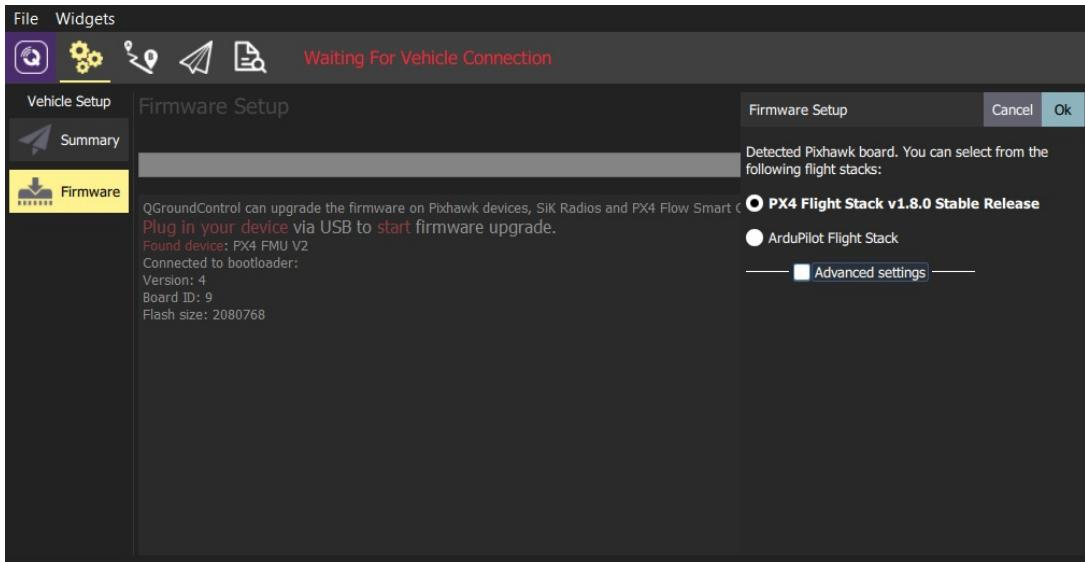

Figure 3.2: Install PX4 default
3. Select the **PX4 Flight Stack X.x.x Release** option to install the latest stable version of PX4 *for your hardware*(autodetected). See figure 3.2.